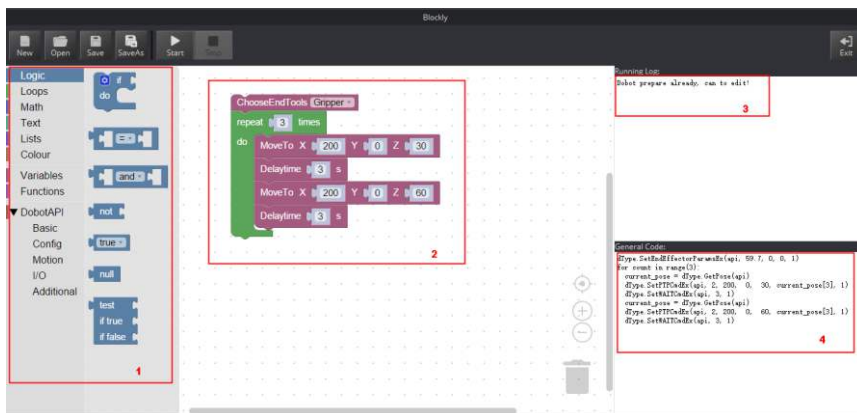

Figure 5.55 Blockly graphics programming
Step 2 Drag the blockly module on the left pane of the **Blockly** page to program, as shown in Figure 5.55.
The demo in Figure 5.55 is described as follows.